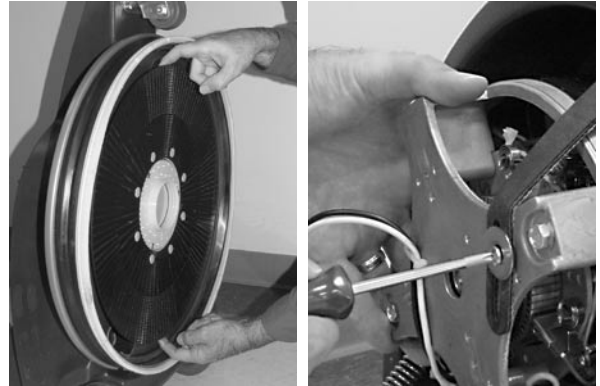

Fig. 6
7. Position machine as shown. Level pad driver and tighten the strap screw. The distance between the pad driver's top surface and base housing should be equal at front and rear of pad driver (Figure 6). The strap should not have any slack.